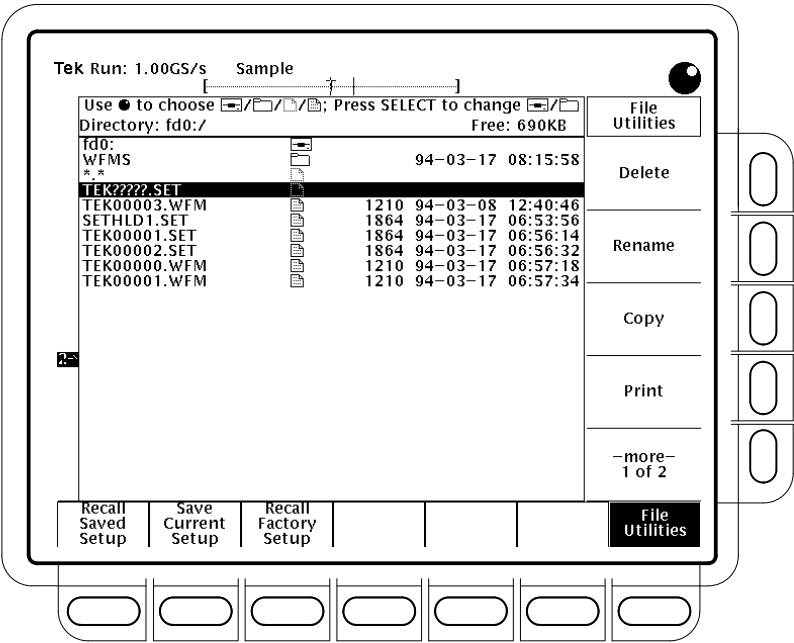

Figure 3–68: File Utilities
2. Press **File Utilities** in the main menu to bring up the File Utilities side menu. (See Figure 3–68.)
**NOTE.** The amount of free space on the disk is shown in the upper right corner of the display. The oscilloscope shows the amount in Kbytes (or in Mbytes if the free space is 1 Mbyte or more). To convert the amount to bytes, you simply multiply the Kbytes amount times 1024. Thus, the 690 Kbytes shown in Figure 3–68 = 690 Kbytes x 1024 bytes/Kbyte = 706,560 bytes.
**To Rename** To rename a file or directory, turn the general purpose knob until it scrolls the cursor over the name of the file or directory to delete. For example, to rename the target file whose default name is TEK????? set the cursor over its name. Then, press the side menu **Rename** button. (See Figure 3–69).
The labeling menu should appear. Turn the general purpose knob or use the main-menu arrow keys to select each letter. Press **Enter Char** from the main menu to enter each letter. When you have entered the name, press the side menu **OK Accept** item. (See Figure 3–69.)